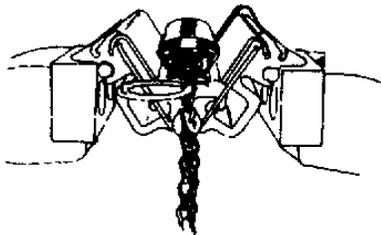

Figure 2-6a
2. Place the open clipper belt lacer (Figure 2-6a) between the jaws of a vise. Remove the guide pin from the hole in the end of the lacer, if installed.